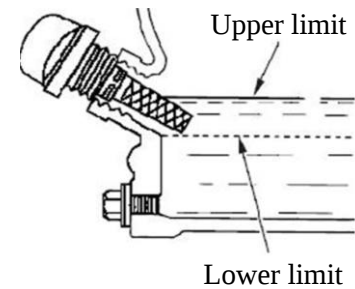

Fig. 9
- Clean the area around the oil filler and remove the oil filler cap/dipstick (8).
- Remove the dipstick and check that the oil level is between the upper and lower limits. See Fig. 9 for illustration.